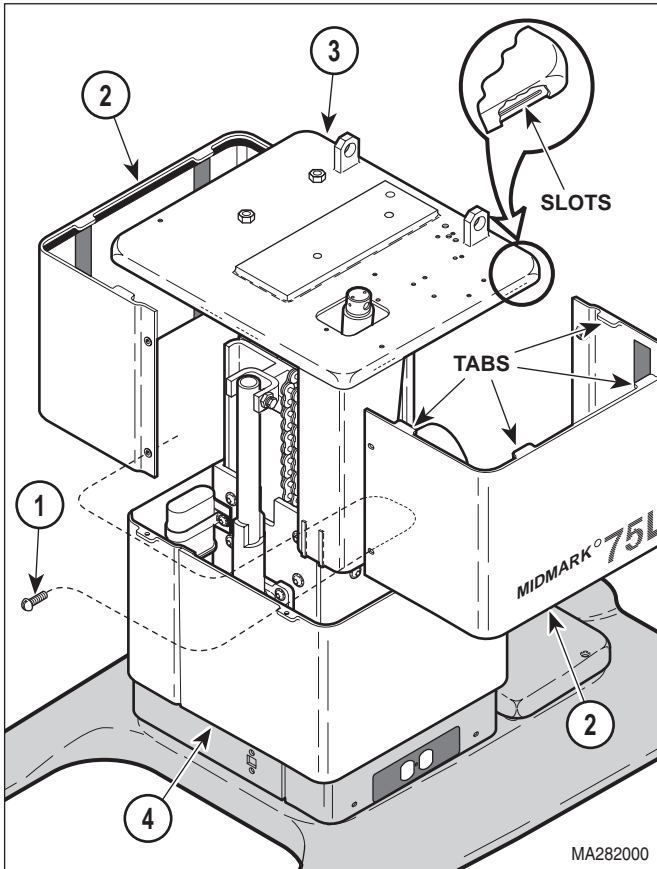
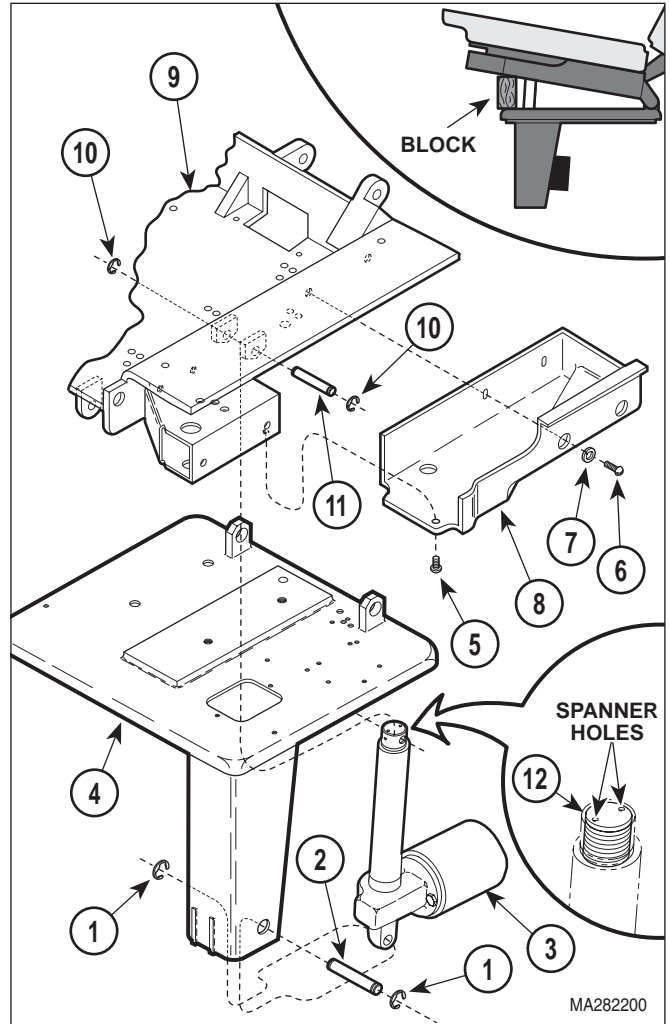

Figure 4-2. Tilt Actuator Access
Figure 4-4. Tilt Actuator Removal / Installation
- (2) Unplug table power cord from wall outlet.
- (3) Remove four screws (1, Figure 4-2) and R.H. and L.H. outer shrouds (2) from column adapter weldment (3).
- (13) Remove two e-rings (1, Figure 4-4) and clevis pin (2) securing base of tilt actuator (3) to column adapter weldment (4).
- (14) Remove screw (5), two screws (6), lockwashers (7), and L.H. stirrup housing (8) from seat weldment (9).
- (15) Raise seat weldment (9) up far enough to get access to pivot pin (11). Block seat weldment up in this position.
- (16) Remove two e-rings (10) from pivot pin (11).
- (17) Using a hammer and punch, drive pivot pin (11) out of seat weldment (9) and remove tilt actuator (3) from table.
- (1) Install tilt actuator (3, Figure 4-4) on column adapter weldment (4) and secure with clevis pin (2) and two e-rings (1).
- (4) Position bottom of tilt capacitor (8) on capacitor mounting bracket (5) and then push the top of the capacitor inward. Using a screwdriver, force the tab of the capacitor mounting bracket down over the catch of the cap (9). Make sure tilt capacitor is held firmly in place.
- (5) Connect actuator wire (6) to wire (7).
- (6) Secure bundle of wire harnesses to capacitor mounting bracket (5) with a cable tie.
- (7) Install connection cover (3) on column adapter weldment (4) and secure with two screws (2).
- (8) Secure actuator cable to tilt actuator (1) with two cable ties.
- (9) Using spanner holes, unscrew adjustable clevis (12, Figure 4-4) until it is even with top of actuator rod.
- (10) Plug table power cord into wall outlet.
- (11) Run TILT UP function to extend rod of tilt actuator (3) 3 to 4 in. (7.6 to 10.2 cm).
- (12) Remove support block; then temporarily connect tilt actuator (3) to seat weldment (9) with clevis pin (11).
- (13) Lower TILT DOWN function all the way down (until tilt actuator can be heard free wheeling).
- (14) Observe. Seat weldment (9) should be parallel with top of column weldment adapter (4). If seat weldment *is* parallel with top of column weldment adapter, go to step 19. If seat weldment *is not* parallel with top of column weldment adapter, go to step 15.
- (15) Extend TILT UP function 3 to 4 in. (7.6 to 10.2 cm).
- (16) Remove clevis pin (11) and block seat weldment (9) in this position.
- (17) Using spanner holes, screw adjustable clevis (12) in or out as determined necessary in step 14.
- (18) Repeat steps 12 thru 17 until seat weldment (9) is parallel with top of column adapter weldment (4) when tilt actuator (3) is free wheeling at the end of its down stroke.
- (19) Secure clevis pin (11) in place with two e-rings (10).
- (20) Install L.H. stirrup housing (8) on seat weldment (9) and secure with two lockwashers (7), screws (6), and screw (5).
- (21) Install tabs of R.H. and L.H. outer shrouds (2, Figure 4-2) in slots column adapter weldment (3) and secure with four screws (1), making sure middle outer shroud assembly (4) is captured by R.H. and L.H. outer shrouds (2).
- (22) Plug table power cord into wall outlet.